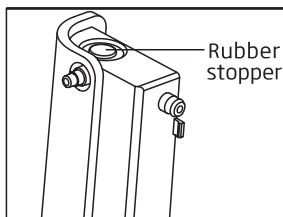

Figure 9
(2) Remove the rubber stopper (Figure 9).